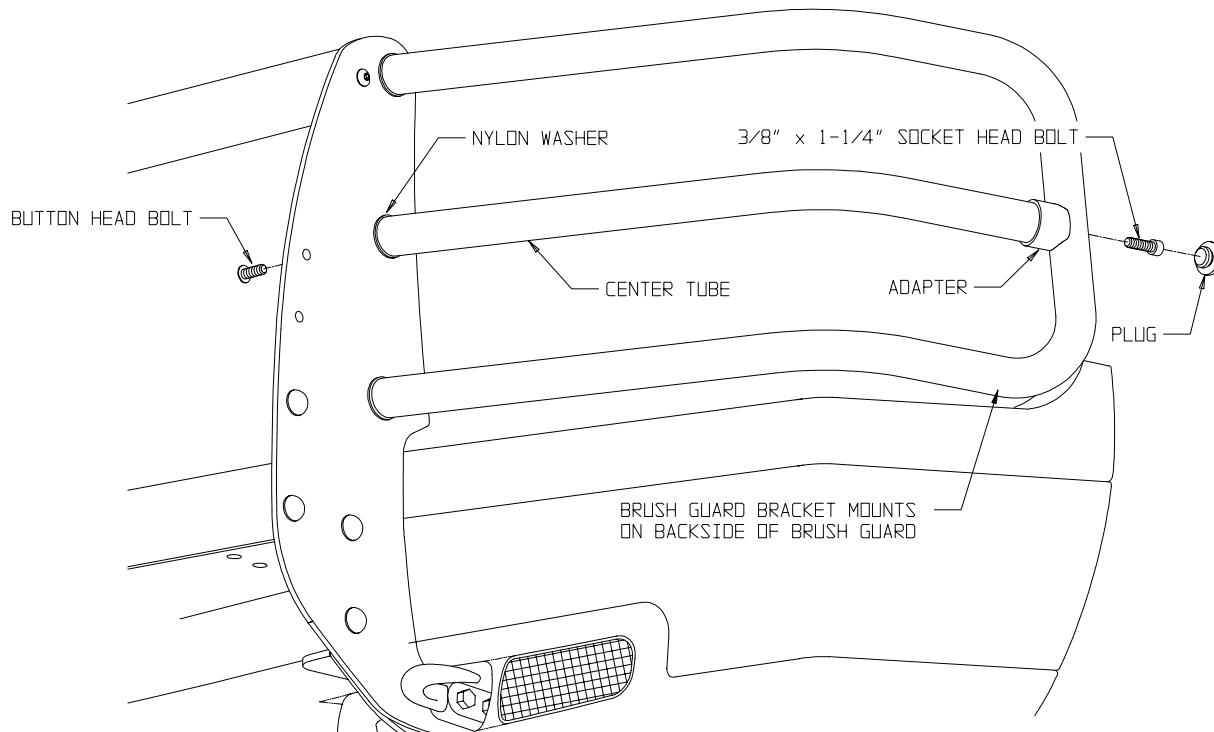

Figure 5: Install Center Tube.
6. Install the Center Tube as shown in **Figure 5**. Note the adjustment slot in side member and adjust tube to achieve best fit. Note that the rubber Adapter is cut out at an angle and must be installed to match the Brush Guard properly. **Do not over tighten the Socket Head Bolt at the outer end.**